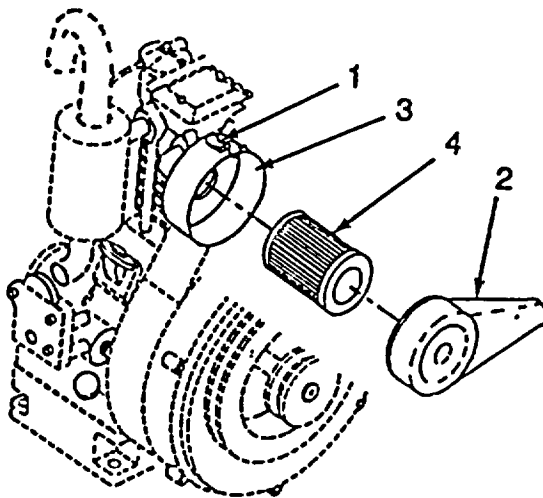

Figure 3-5. Air Cleaner
a. Removal. (Refer to Figure 3-5.)
- (1) Release toggle clips (1).
- (2) Remove cover (2) from air cleaner housing (3).
- (3) Remove old air cleaner element (4).